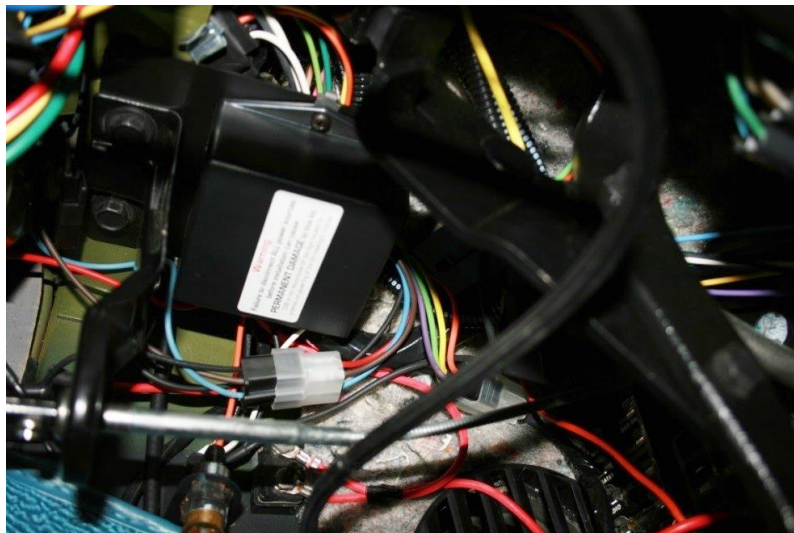

Figure 13 – Mount Control Module
28. Install the headlight door control module mounting bracket under the hood release cable bracket and reinstall the bolts (Figure 13). If the hood release cable is not mounted through these holes, use the included 5/16"-18 x 3/4"L" Flange Head Hex Cap Screws to mount the module in the position.